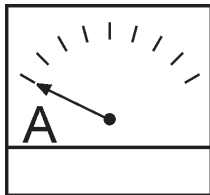

Figure 45. Ammeter (No Load)
8. The ammeter (Figure 45) will indicate **zero amps** with no load applied. When a load is applied, the ammeter will indicate the amount of current that the load is drawing from the generator.